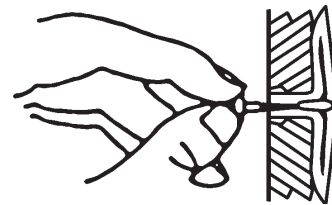

Figure 8 - Popping Open
4. For thin walls (1/2 inch or less), insert red key into wall anchor. Push red key to “pop” open anchor wings (see Figure 8).